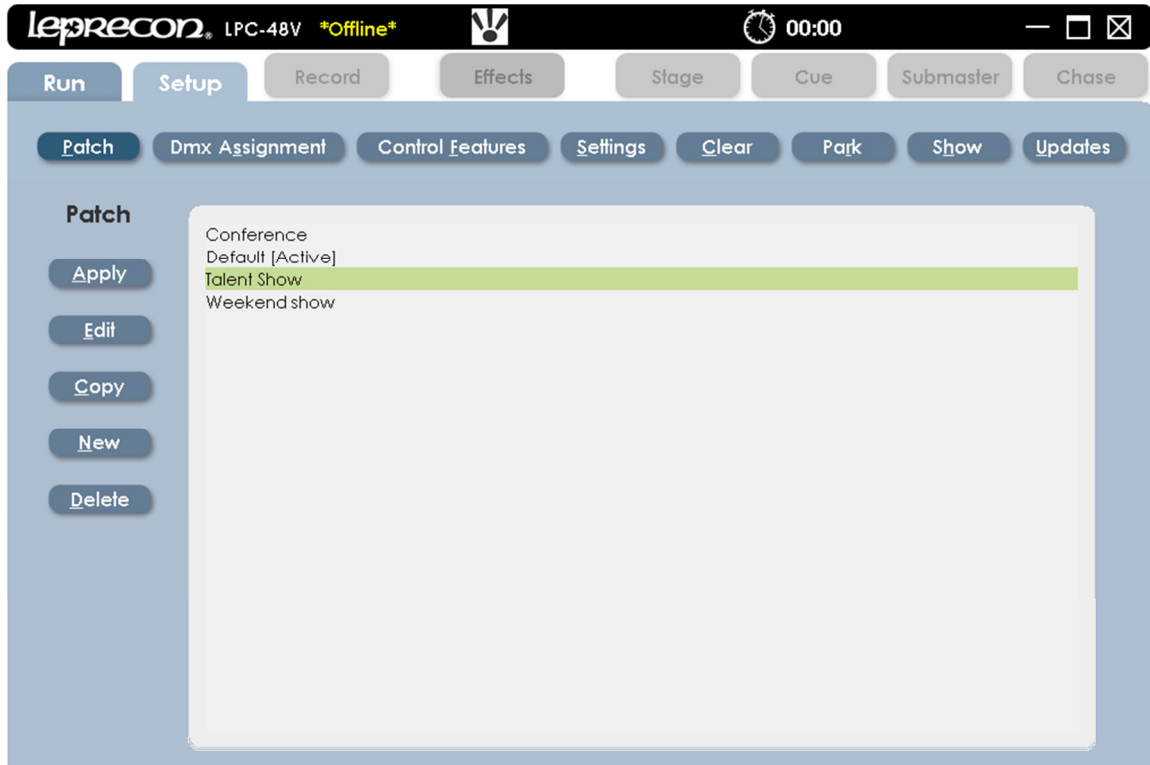

Figure 6: Patch List Screen
All patches will be listed in the patch screen (See Figure 6). Only one patch can be used at a time. Applying a patch makes it active, and the dimmer to channel assignment changes at the time it is applied. Patches can be viewed by desk **Channel** or by DMX **Dimmer**.
5. Select **Save** and the new patch will appear in the **Patch List** window, (See Figure 6).